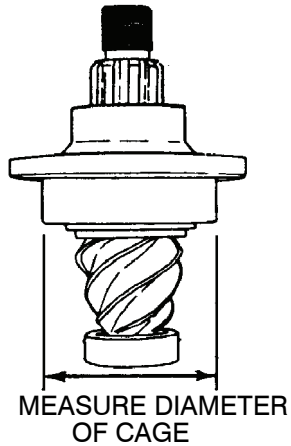

Figure 118.
- (g) Measure the diameter of bearing cage where the cord was wound. Measure in inches or centimeters. Figure 118.